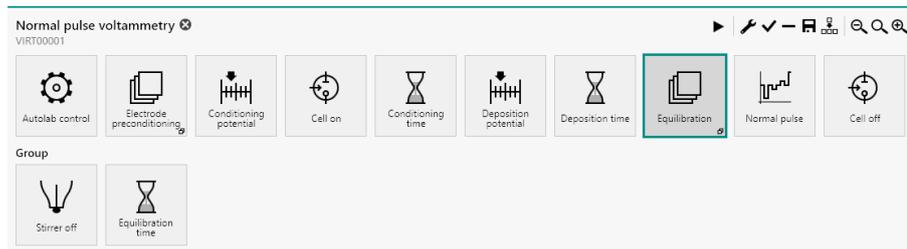

Figure 620 The Equilibration group
- Equilibration:** this command group is used to create an equilibration step in the procedure. The commands in this group are used to switch the stirrer off and wait for the specified amount of time (see Figure 620, page 520).